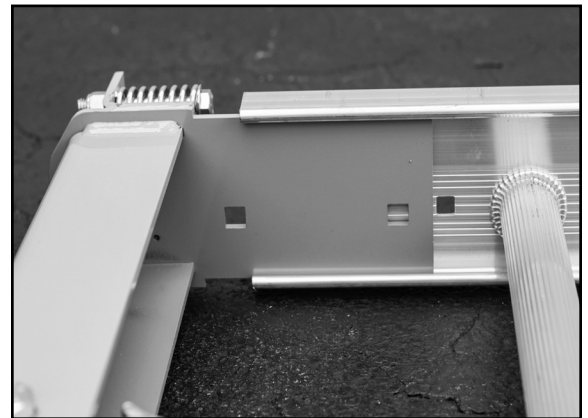

FIGURE 5
Secure it with two (2) 3/8" x 3/4" carriage bolts and lock nuts. NOTE: The square holes are off-set, if holes do not line-up - flip around. SEE FIGURE 5